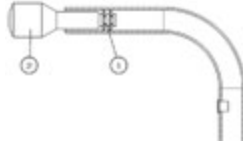

Fig. 41
- Insert a 1/4"-20 grip nut (1) (Fig. 41) with the grip nut insertion tool (2) inside the handle (40 mm).